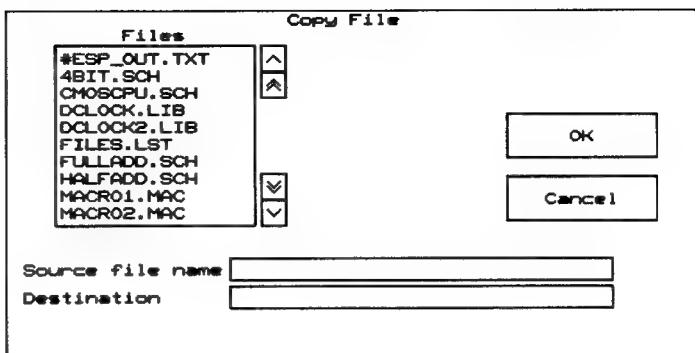

Figure 2-5. *Copy File* screen.
4. Select Copy File. The screen shown in figure 2-5 displays.